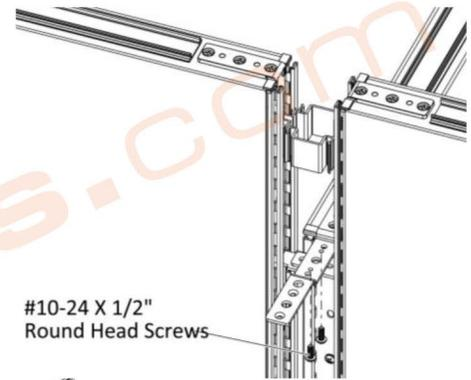

Figure 7
**15.** Securely fasten the connectors with two #10-24 X 1/2" Round Head Screws, (Figure 7).